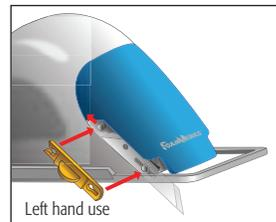

Fig. 1
- 4 Replace the Blade Clip, taking care to position the open end of the clip to the top. Slide upwards until clip snaps into place (**Fig. 1**)
- 3 Replace the **Blade Clip**, taking care to position the open end of the clip to the top. Slide upwards until clip snaps into place (**Fig. 1**).
- 3 Replace the **Blade Cover Plate** with arrow pointing down, and reattach the **Blade Holding Knob** (**Fig. 1**). If you removed the **Scaled Cutting Beam**, replace it now.